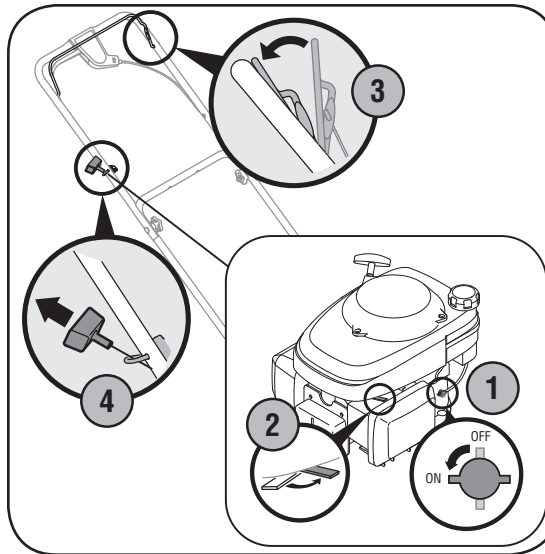

Figure 4-2: Starting the mower.
1. Place the fuel valve lever found on the left side of the engine into the ON position, Figure 4-2.
2. Move the choke lever all the way backward into the choke position, Figure 4-2.
3. Standing behind the mower, squeeze the blade control against upper handle, Figure 4-2. The choke will now begin to slowly return to the off choke position after activating the blade control. Therefore, quickly move onto step four below. Refer to the engine manual for further details.
4. Holding these two handles together firmly, grasp recoil starter handle and pull rope out with a rapid, continuous, full arm stroke, Figure 4-2. Keeping a firm grip on the starter handle, let the rope rewind slowly. Repeat until engine cranks. Let the rope rewind each time slowly.